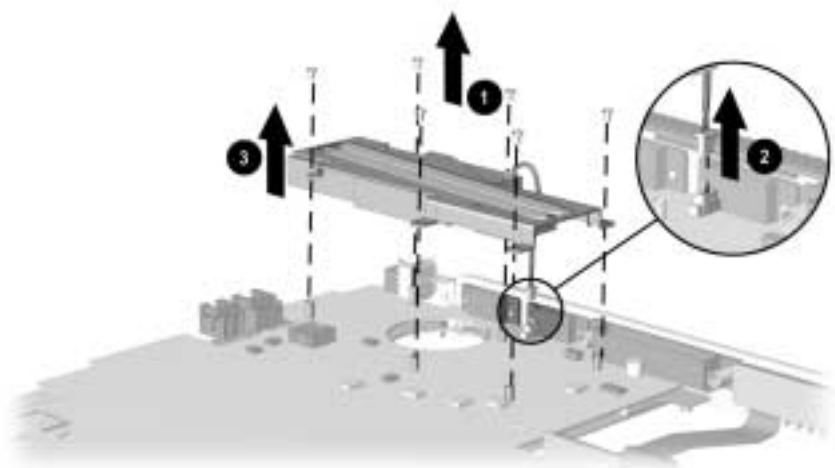

Figure 5-27. *Removing the Fan and Heat Sink*
3. Remove the six screws that secure the fan and heat sink to the system board ❶ (Figure 5-27).
4. Disconnect the fan cable from the system board ❷.
5. Remove the fan and heat sink from the system board ❸.